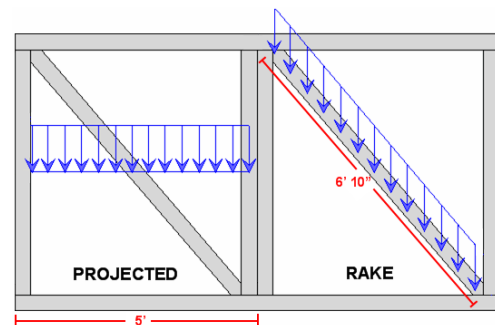

Figure 181: A *Rake Spread* receives a greater load than a *Projected Spread*.
21. **Spread** – As pictured in Figure 181, the *Spread* column is used to define the total surface to which a load will be applied. There are two potential values: